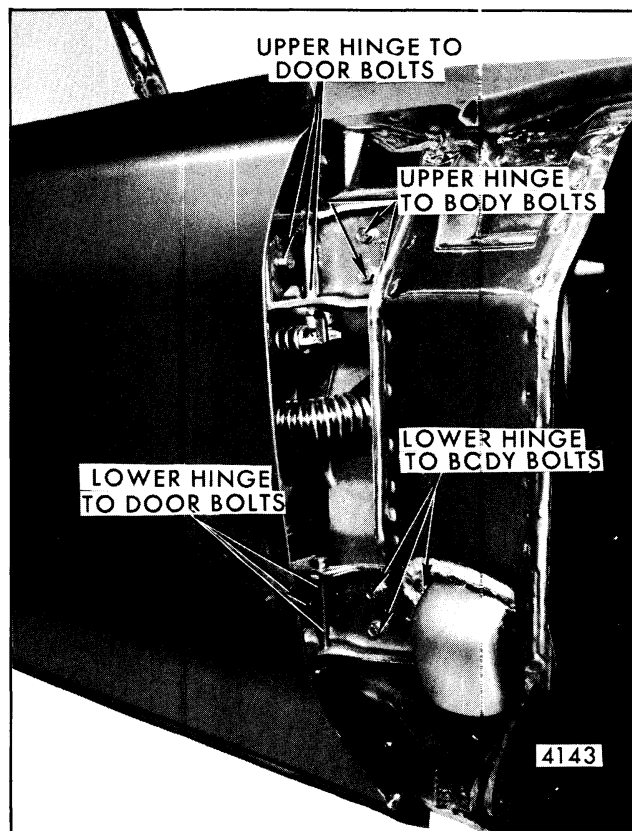

Fig. 5-55-Typical Front Door Hinge Attachment - All Except "X" Styles
The front door is mounted to the front body hinge pillar with an upper and lower hinge. Figure 5-55 illustrates typical front door bolt-on hinge installation, except for "X" styles. "X" style hinges are welded to door and body hinge pillars. All styles use a swing-in" type hinges, which means the leading edge of the door swings inboard of the front fender when opened.
3. With aid of a helper, support door in open position and remove upper and lower hinge to door hinge pillar attaching bolts (Fig. 5-55).
1. Remove front door as previously described. Mark position of hinge on body hinge pillar and remove hinge to body hinge pillar attaching bolts (Fig. 5-55).
- Support door in the full-open position and remove hinge to door and body hinge pillar attaching bolts (Fig. 5-55). Then, remove hinge from body.